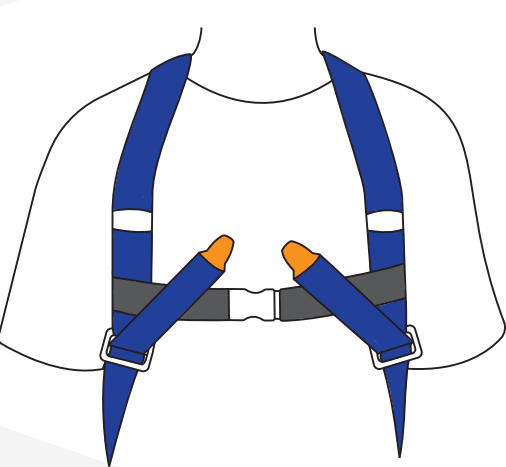

Fig 4
4. Reach between the legs, bring one of the leg straps through and fasten the buckle, following the appropriate buckle diagram. Repeat for the other leg strap. (Fig 4)